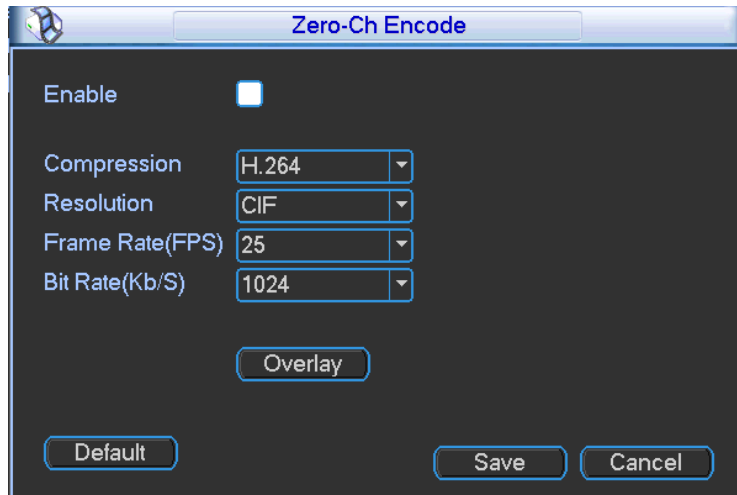

Figure 4-71
- Zero-Channel Encoding (Multiple-Preview) : Click Setup button, you can go to the following interface. See Figure 4-71. Here you can enable and set zero-channel encoding function so that you can view several video sources at one channel.